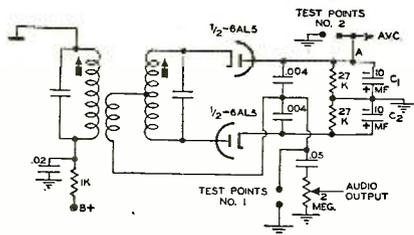

Fig. 3. A balanced ratio detector. The indications obtained at test points 1 and 2 are discussed in detail in the text.
b. *Ratio FM Detectors:* Ratio detectors are either balanced or unbalanced and the method of using the test points afforded by this circuit varies with the arrangement of the detector. In the balanced circuit, Fig. 3, placement of an oscilloscope across test points No. 1 will produce an S-curve characteristic when an FM signal is applied to the grid of a preceding stage. The same two terminals can be used by a vacuum-tube voltmeter when an AM signal generator is connected to a previous stage. The method is similar to the one employed for the Foster-Seeley discriminator.